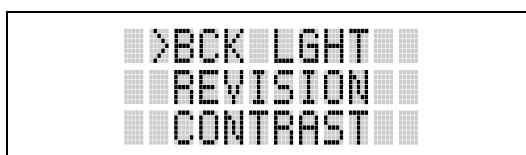

Figure 10-1: Menu Display
2. Upon entering the menu selection mode, Menu options will appear in the display (see Figure 10-1).